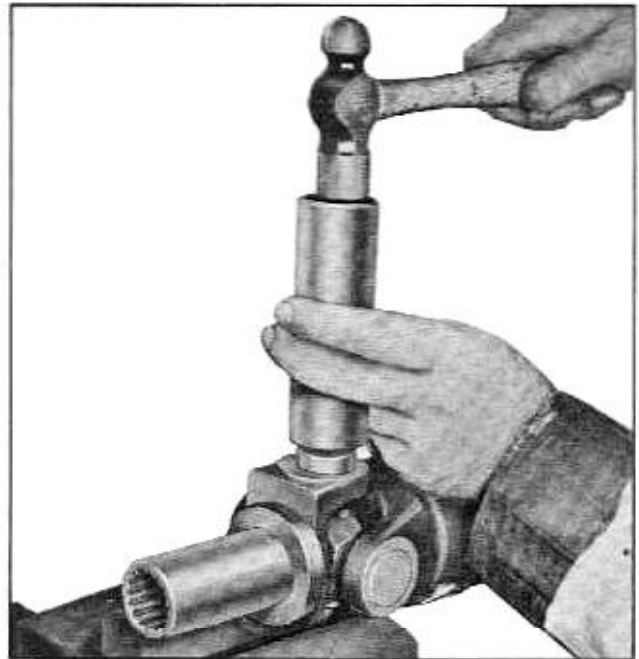

Fig. 4-48 Removing Bearing From Splined Yoke Member
b. Using a piece of pipe or similar tool with diameter sufficiently large to encircle bearing (slightly larger than $1\frac{1}{8}$ inch), apply force on yoke around bearing (Fig. 4-48). This will drive yoke down causing journal assembly (spider) to force bearing partially out of yoke.